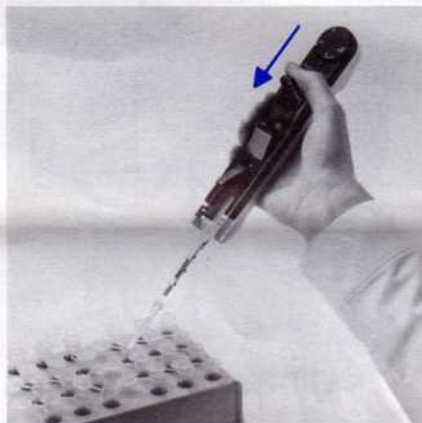

Figure 9: Pipetting
- Pipette the reagent by depressing the pipetting lever (refer to Fig. 2.2) until it stops (refer to Fig. 9).